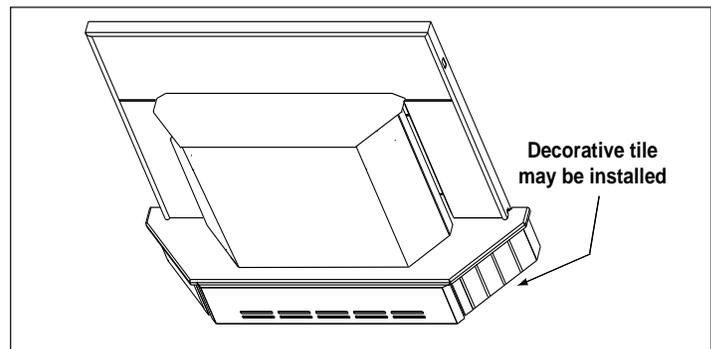

Figure 23.3
3. Measure front and side trims to required height to cover scissors and mark pieces for cutting. Cut excess material from **top** of trim’s edge, not bottom. This edge will be sharp; wear gloves to prevent injury to your hands. **Figure 23.3.**
NOTE: 3/8 inch (9.5mm) thick tile or like material can be cut to size and fit under lip of top trim edge for a decorative touch. **Figure 23.3.**